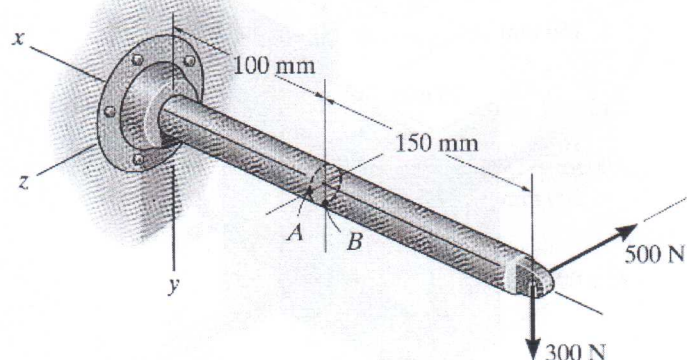

Figure 5.
- (5) The bar shown in Figure 5 has a diameter of 40 mm. If it is subjected to the two force components at its end as shown, determine the state of stress at points A and B .